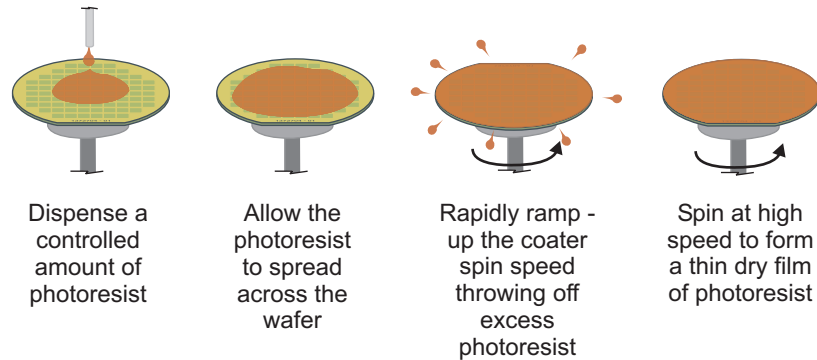

Figure 6. Photoresist coating process.
- Coat - a small amount of photoresist (a few milliliters) is dispensed onto the center of the wafer and then spun at high speed to produce a uniform thin film - see figure 6